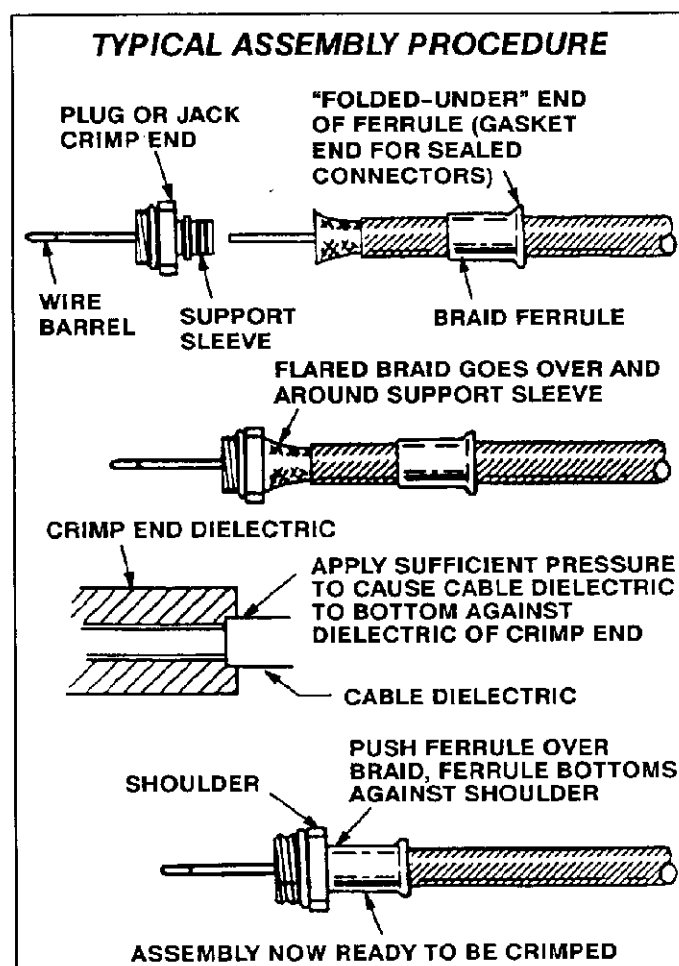

Fig. 5
3. Push crimp end back under braid so that braid passes over and around support sleeve. Apply sufficient pressure to cause cable dielectric to bottom against dielectric of crimp end. See Figure 5. Twist crimp end slightly to assure bottoming.
4. Slide ferrule forward and over braid on crimp end as far as it will go. See Figure 5. Crimp end is now ready to be crimped.